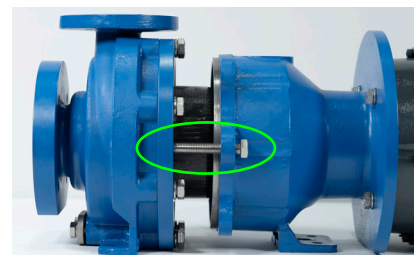

figure 6
2. Carefully slide the wet end towards the motor adapter until it touches the jack screws. There will be some magnetic attraction. See figure 6.
4. Bolt the wet end to the motor adapter by re-installing the (4) M14 hex head cap screws and torque evenly to 75 ft-lbs (102 N-m).